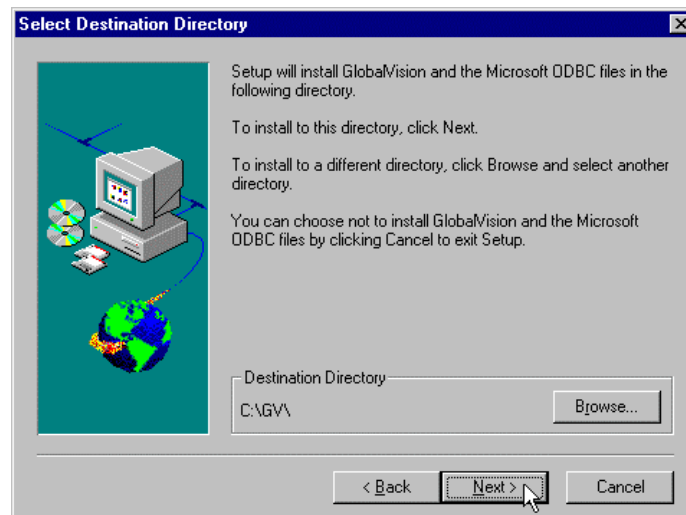
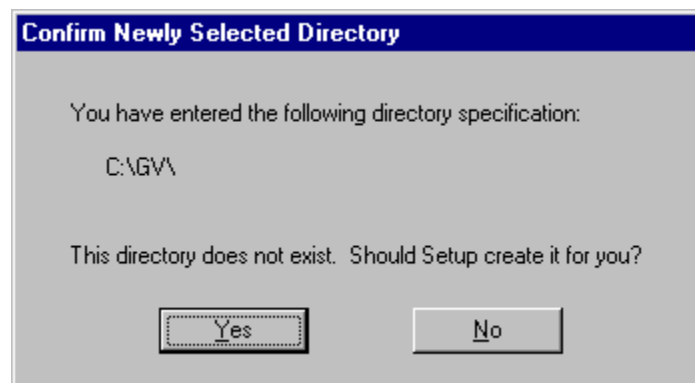

Figure 15– Select Destination Directory dialog box
Figure 16 – Confirm Newly Selected Directory
12. The next screen allows you to select the directory wherein you would like to install the **GlobalVision** and the **Microsoft ODBC** files. The Default is set for you as **C:\GV\**. Make your choice and click **NEXT>** to continue installation. See Figure 15. [Note: If you choose a directory name that has not been created yet, a Confirm Newly Selected Directory will come up that asks if the SetUp should create it for you. Answer “**Yes**” or “**No**”. See Figure 16.]